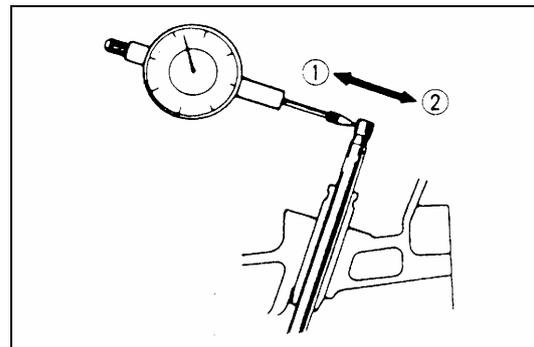

fig. 4-162
according to the direction in fig. 4-162 shown, move valve stem end between ① and ②, measure movement capacity of valve stem end. If movement capacity is out of limit, replace valve and valve guide.